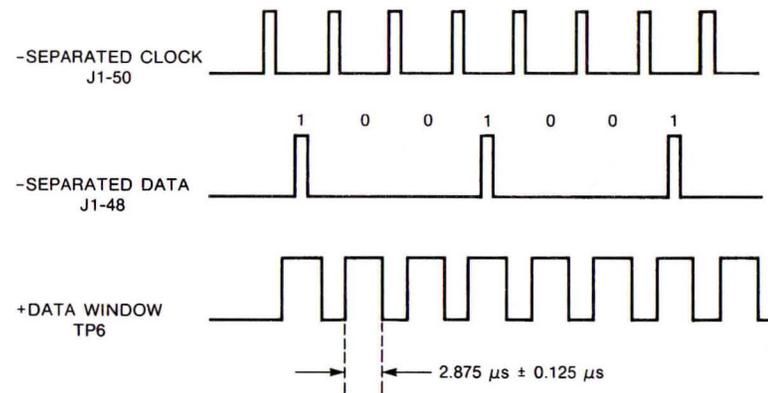

FIGURE 4-20. TP6 OUTPUT (+DATA WINDOW)
4. Verify that the time from the positive going leading edge to the negative going trailing edge is 2.875 ± 0.125 microseconds; adjust R87 potentiometer, if needed. See Figure 4-20.